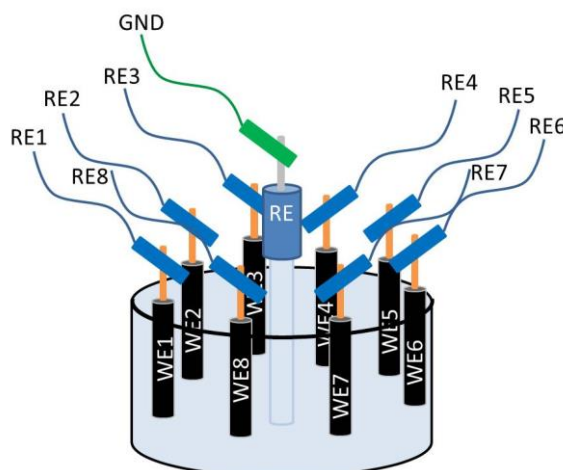

Figure 3.2: Scheme of the setup for the OCP measurement
3. Connect the reference electrode lead of channel 1 (blue plug) to your working electrode 1. Connect the reference electrode lead of channel 2 (blue plug) to your working electrode 2 and so on (see Figure 3.2).